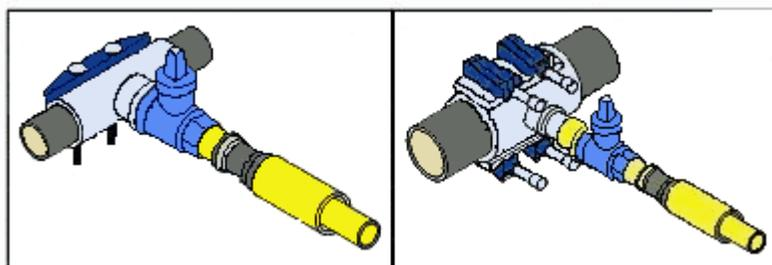
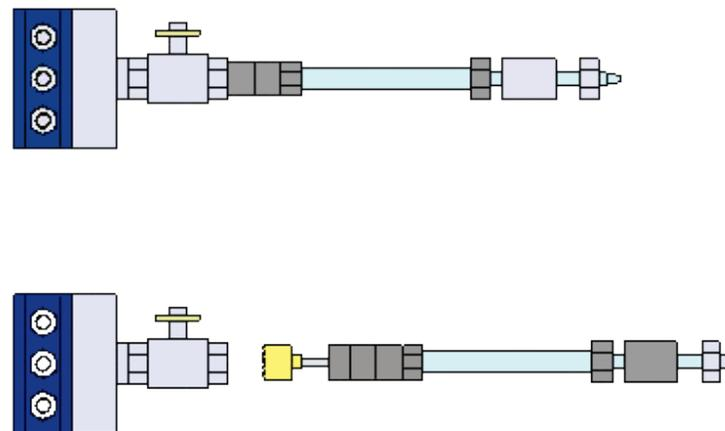

Figure 20 - Example – Service connection to an Encirclement Fitting
Figure 22- Long Reach Drill and Encirclement clip
2. Attach the correct size full encirclement fitting onto the main and tighten using a torque wrench as per manufacturer's instructions (Figure 20).
5. Open the valve and check the drill travel distance to the main and mark the stem of the drill (see Figure 22).
11. The main can be drilled using a long reach drill (as shown in Figure 22) which is connected to the outlet thread/flange of a full-bore valve fitted to the tapped boss of the fitting (as shown in Figure 20).